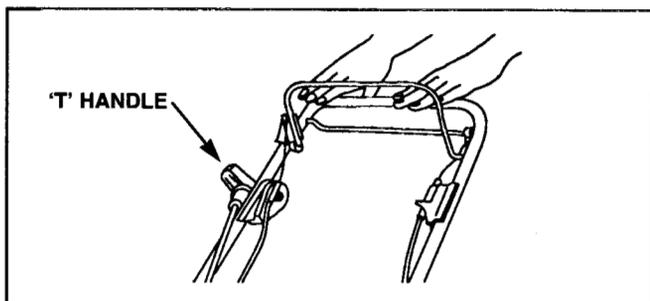

Figure 41
1. Disassemble the starter rope "T" handle (**Figure 41**) sufficiently to untie (or cut) the starter rope knot and release the rope. (The plastic rope stop prevents the rope from rewinding completely into the starter).